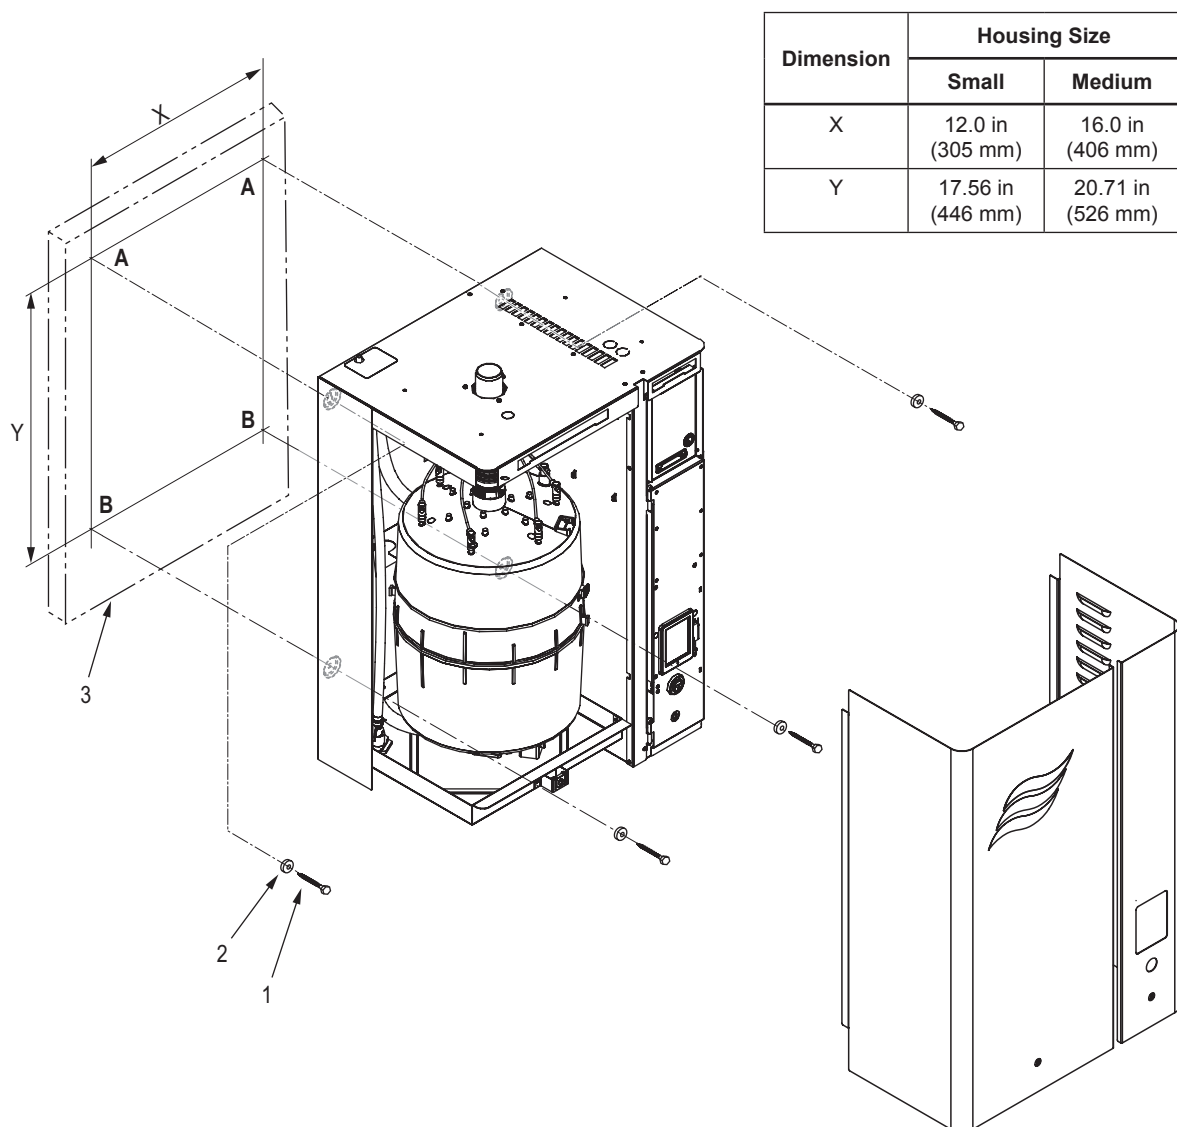
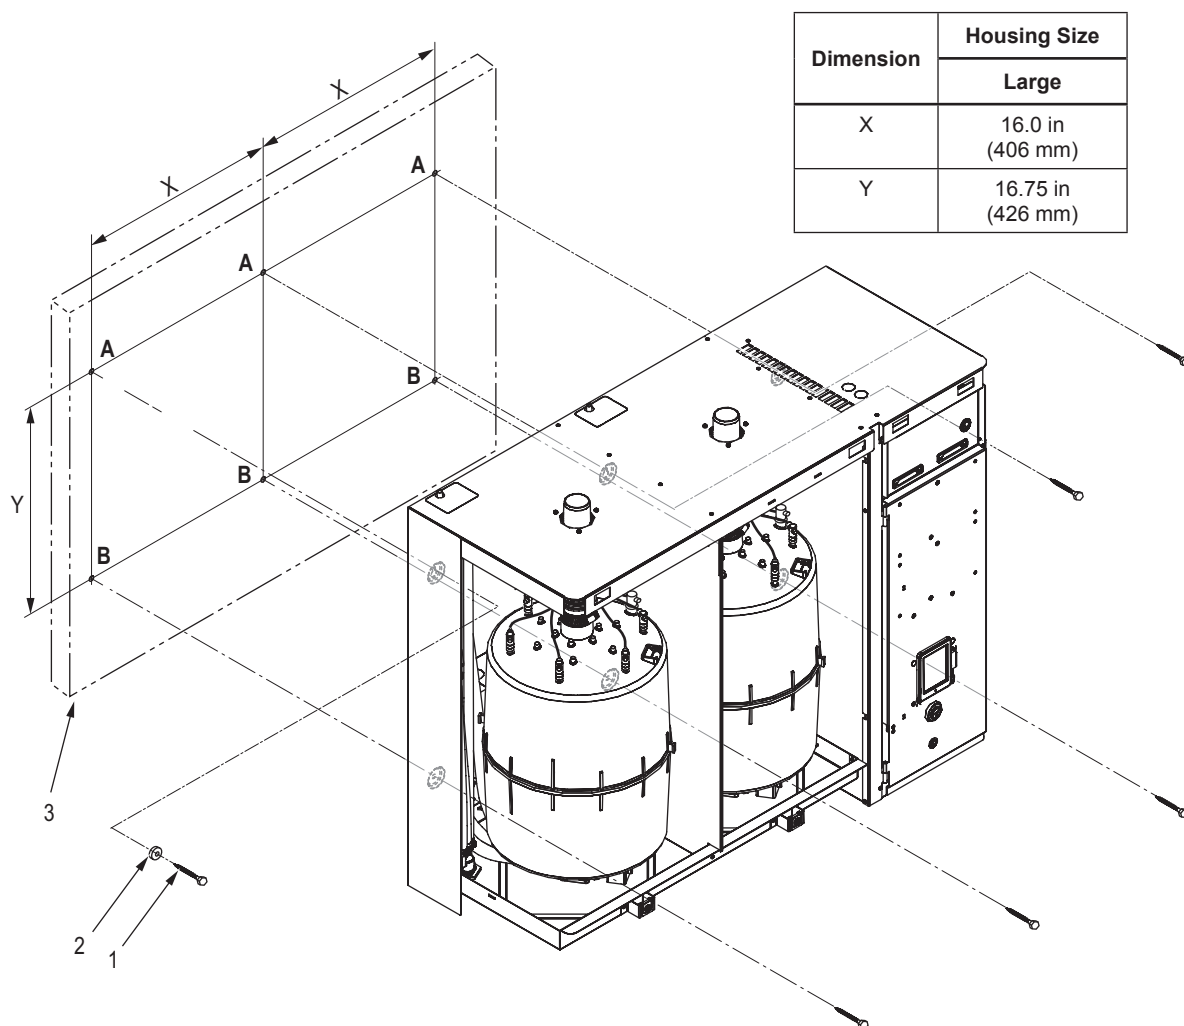

Figure 11: Optional Seismic Mounting, Small or Medium Housing
Figure 12: Optional Seismic Mounting, Large Housing
2. Mark the attachment points "A" and "B" at the desired position on the plywood sheets (or equivalent) with the help of a level. For small or medium housing refer to Figure 11. For large housing refer to Figure 12 on page 27.